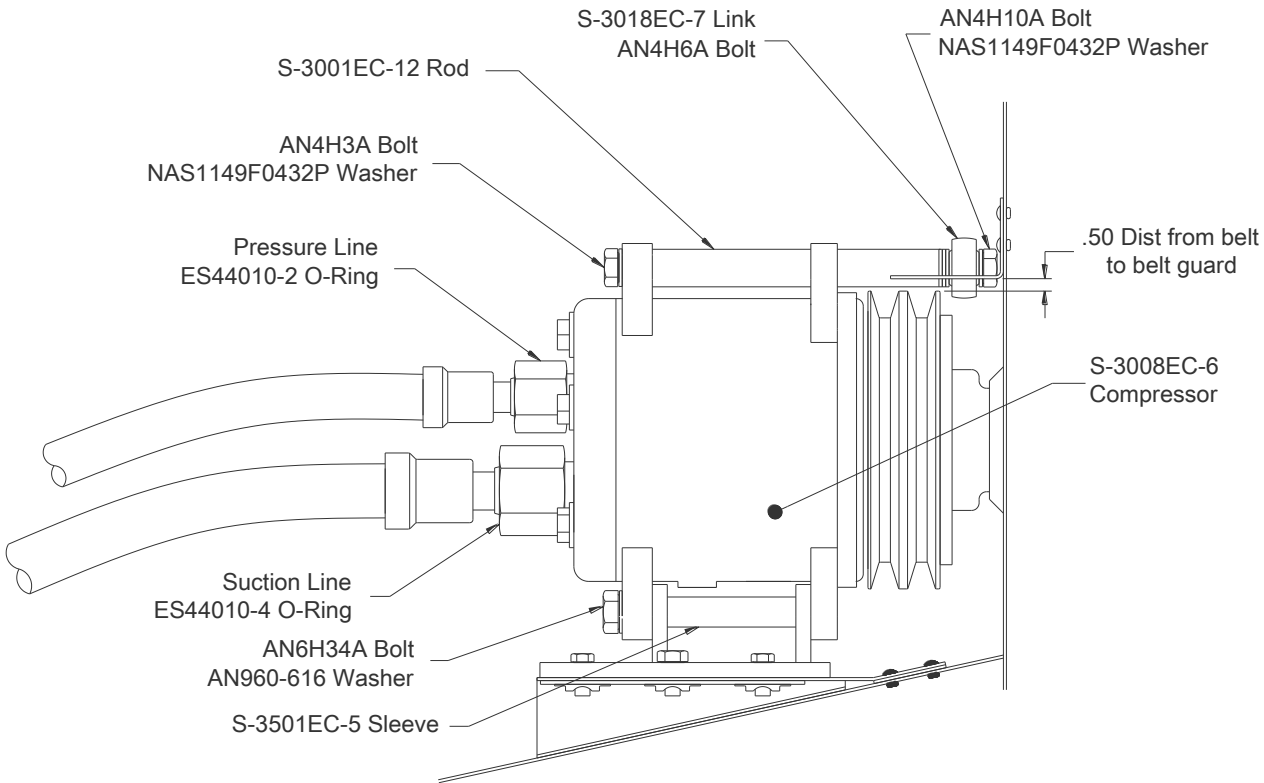

Figure 11: Compressor – View D-D
5. REMOVE AND REPLACE COMPRESSOR (Figure 11)